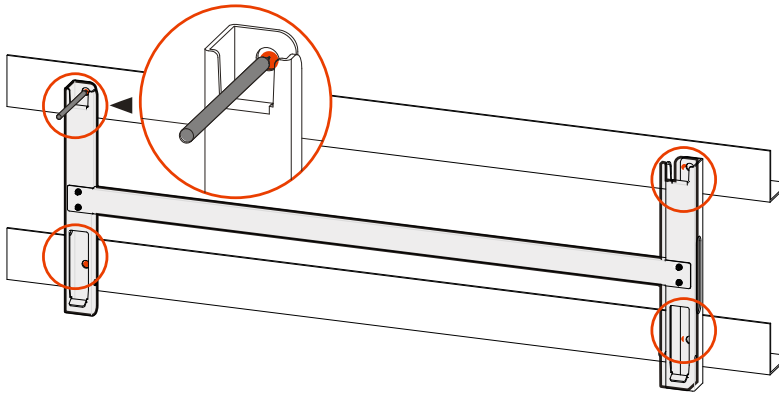

Figure3-12 Mark the mounting holes position
- Step 2 Place the assembled installation holder onto the installation site, use a horizontal ruler to adjust the angle, and mark the position of the hole on the bracket, as shown in Figure3-12.